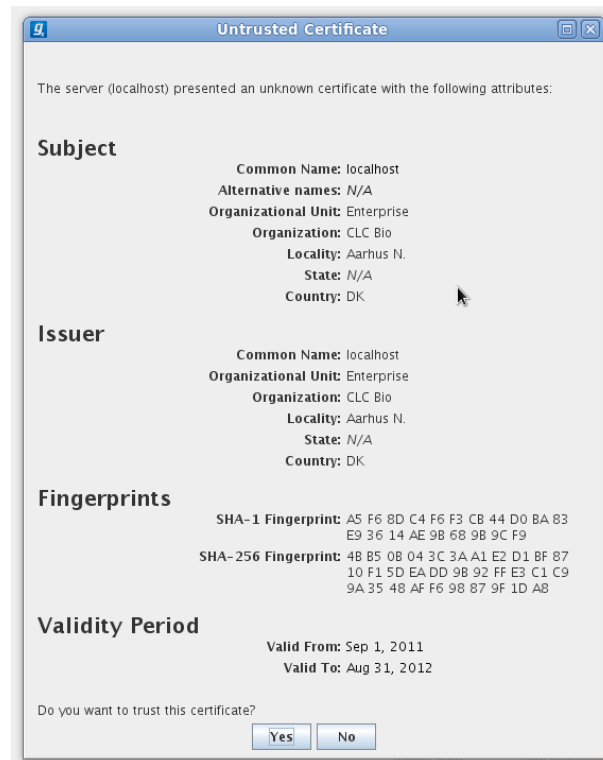

Figure 15.4: A warning is shown when the certificate is not signed by a recognized CA.
If SSL is detected, the server's certificate will be verified and a warning is displayed if the certificate is not signed by a recognized Certificate Authority (CA) as shown in figure 15.4.